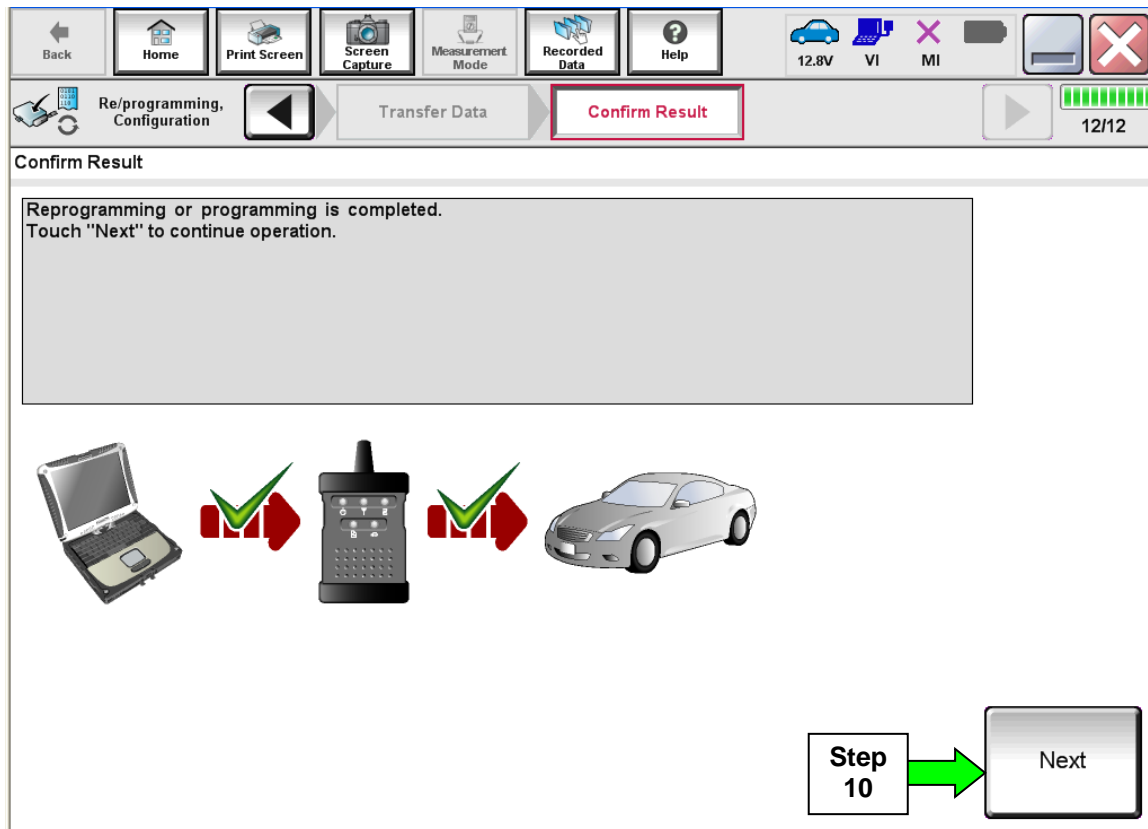

Figure 4
8. When the screen in Figure 4 displays, reprogramming is complete.
NOTE: If the screen in Figure 4 does not display (indicating that reprogramming did not complete), refer to ECM recovery on the next page.